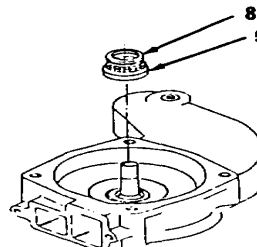

Figure 3-182.
6. Remove impeller (7).
7. Remove and discard spring (8) and seal (9, Figure 3-182).